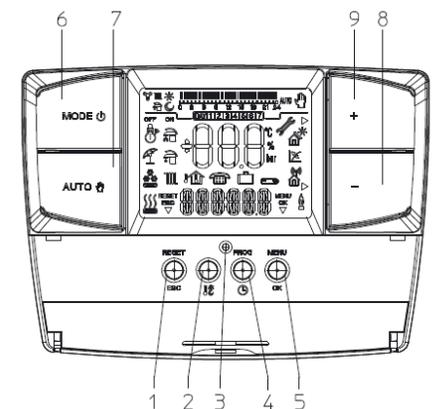

Fig 5
By pressing the reset button (ref 3 fig 5) the Comfort remote control hardware can be reset without losing the user setting, such as time, date and timed programmes.
Press and release the button in the reset hole (ref 3 fig 5) holding the **RESET** button down (ref 1 fig 5).